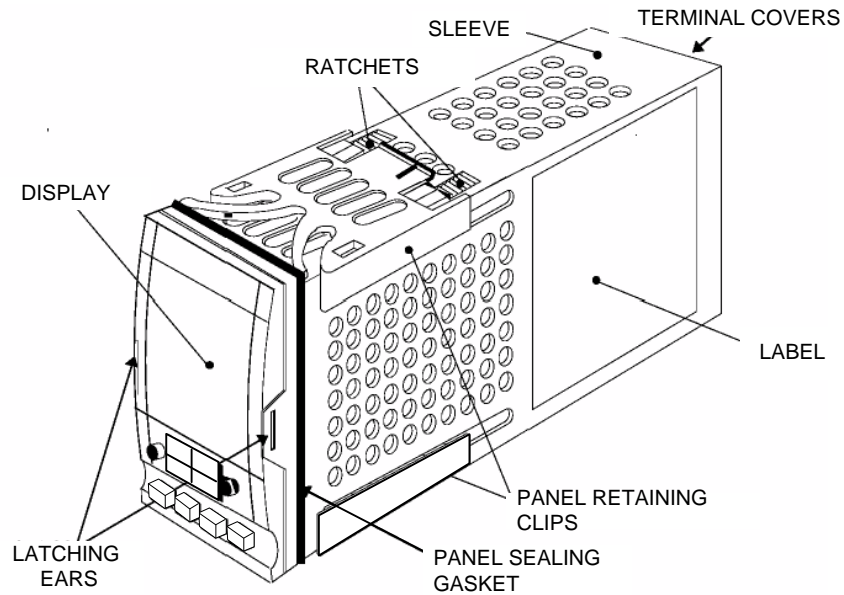

Figure 8-7. Temperature Controller Installation
- 2) The Temperature Controller is installed in a sleeve as shown in Figure 8-7. To unplug and remove the Controller from its sleeve, simply pry the latching ears outward and pull the Controller out of the panel.